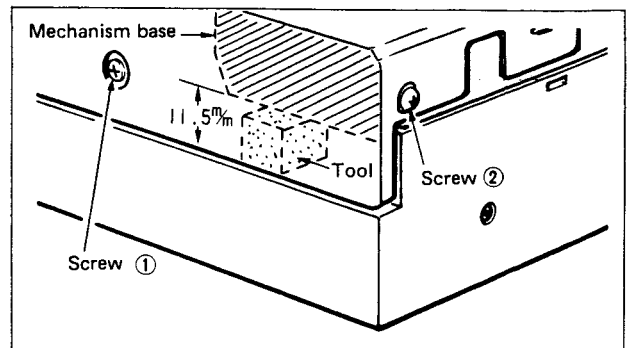

Fig. 4
- Check the standard height between the mechanism base and the cabinet. (11.5 mm: see Fig. 4)
3. Connect the voltmeter between TP501 pins ④ and ① on the control P. C. Board.
5. Then, adjust VR501 so that the voltage between TP501 pins ④ and ① is DC 4.8 V \pm 0.05 V.
6. Move the tonearm back to the center, and adjust the screw in the tonearm rest part so that the voltage between TP501 pins ④ and ① is DC 1.9 V \sim 2.0 V in the tonearm DOWN mode.
Check the standard height (11.5 mm; see Fig. 4) between the mechanism base and the cabinet.